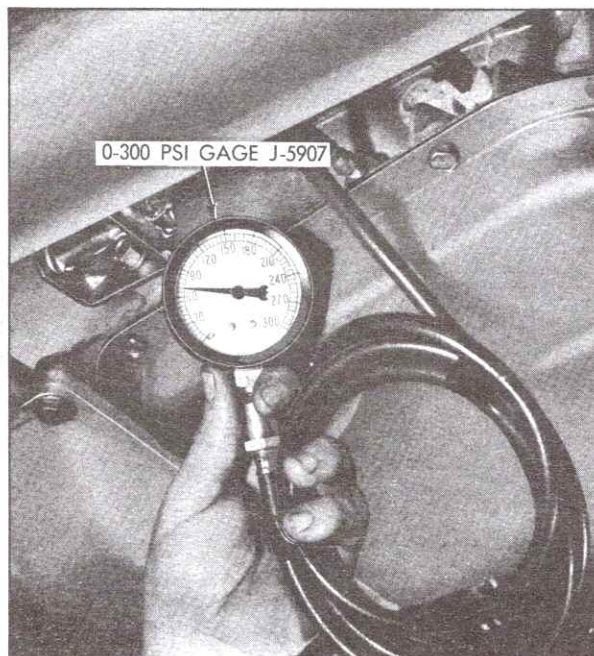

Fig. 7-19 Checking Oil Pressure
2. Connect pressure gage hose fitting at pressure plug bore in transmission case, Fig. 7-19, and place gage in car so that it can be seen from driver's seat. Refer to Fig. 7-16.